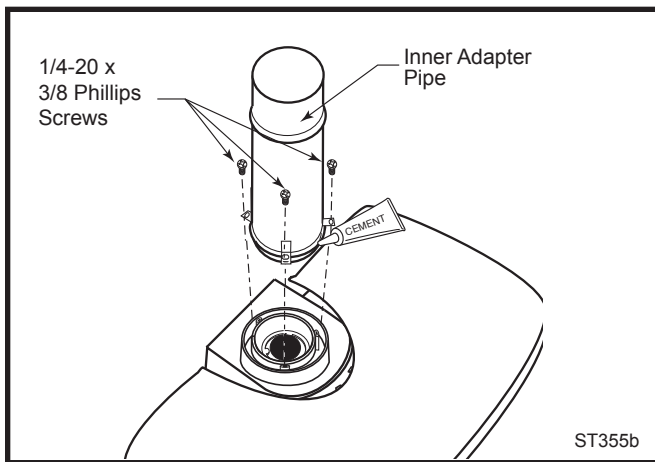

Fig. 21 Simpson Dura-Vent - install inner adapter pipe.
- Run a bead of sealant around the bottom end of the starter pipe and attach the assembly to the stove using three 1/4-20 x 3/8" Phillips screws provided in the parts bag. (Fig. 21)